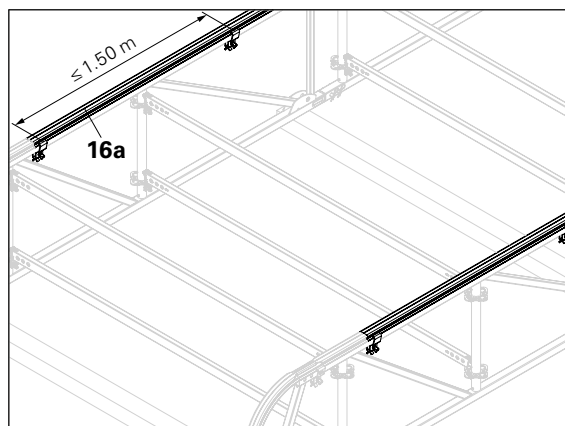

Fig. A2.02
4. Next, position other keder tracks (**16a / 16b / 16c**) on the eave rail and fix them in place at the joint with a keder connector (**17**) at spacings of  $\leq 1.5$  m. (Fig. A2.02 + A2.02a)